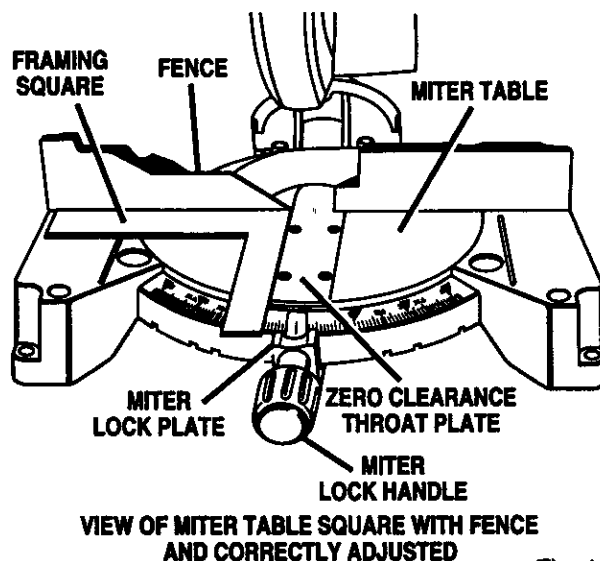

Fig. 13
See Figures 13 - 16.
- Lay a framing square flat on the miter table. Place one leg of the square against the fence. Place the other leg of the square beside the zero clearance throat plate in the miter table. The edge of the square and the zero clearance throat plate in the miter table should be parallel as shown in figure 13.